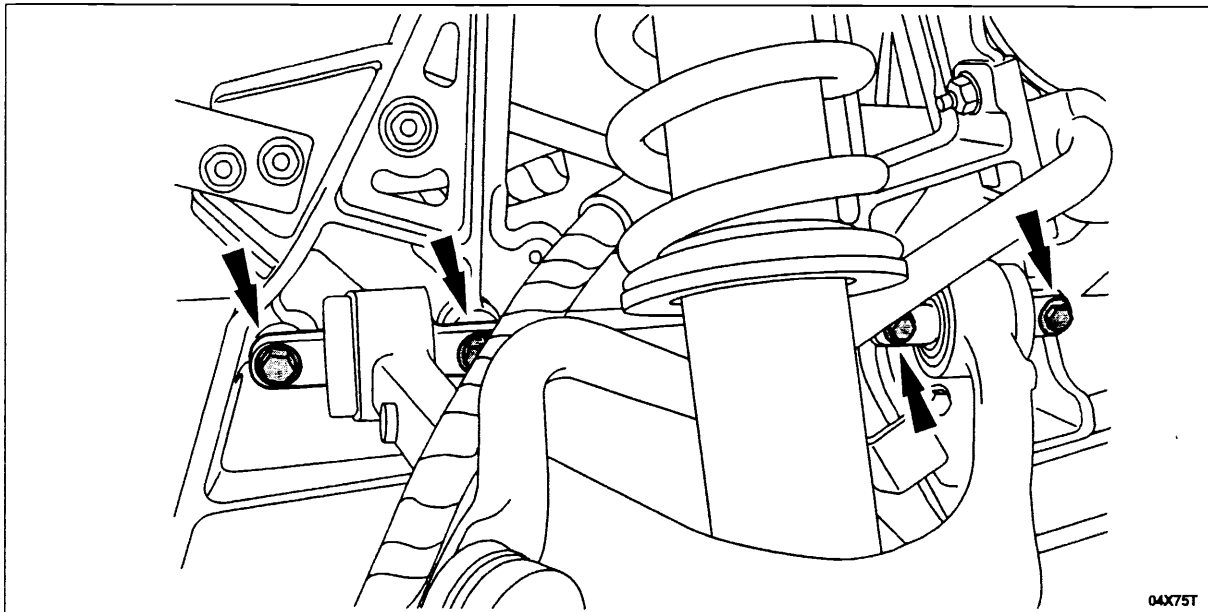

FIGURE 20
3. Tighten the bolts to 30 Nm (22 lb-ft), then apply a paint stripe to the bolts and check the appropriate box on the Mandatory Compliance Inspection Report. See Figure 20.